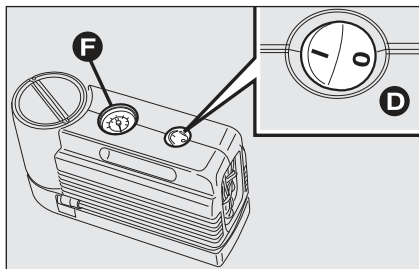
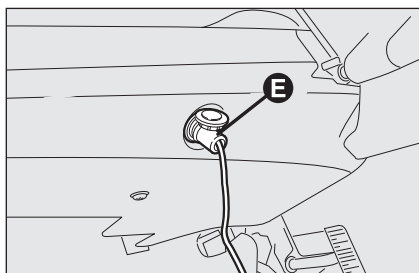

fig. 10
fig. 11
- make sure that switch **D-fig. 10** of the compressor is in position 0 (off), start the engine, plug into the nearest socket **E-fig. 11** and activate the compressor by turning switch **D-fig. 10** to position I (on). Inflate the tyre to the pressure specified in the “Inflation pressure” paragraph in the “Technical specifications” section.
For a more accurate reading, check pressure gauge **F-fig. 10** with the compressor off;